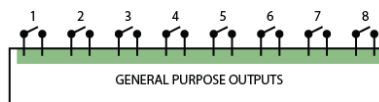

Figure 2.1: GPO Pinout
Each GPO port features a normally-open (NO) relay for switching external equipment. The relay can switch 250VAC/30VDC up to 2A. Please refer to figure 2.1 for the pinout of the GPO connector.